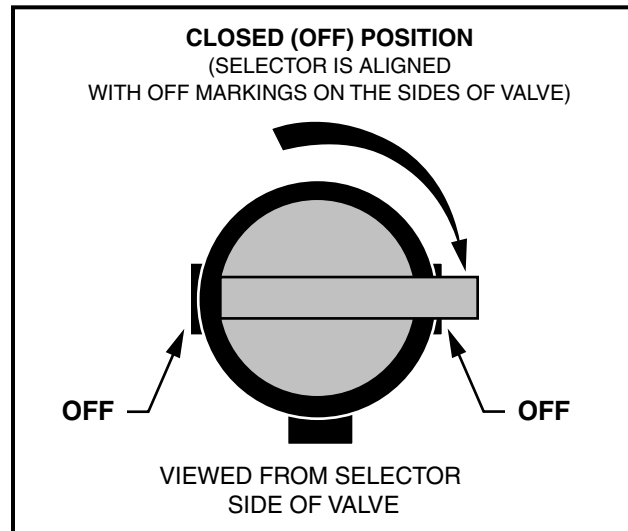

Figure 3-3 Fuel Shut-off Valve – Closed
- Turn fuel shut-off valve to closed (OFF) (Figure 3-3, Page 3-4).
- 5.1. Turn the fuel shut-off valve to the closed (OFF) position (**Figure 3-3, Page 3-4**) and run the engine until fuel remaining in the carburetor and fuel line is depleted and the engine stalls. **See DANGER "Do not operate gasoline vehicle..." General Warning, Section 1, Page 1-1.**